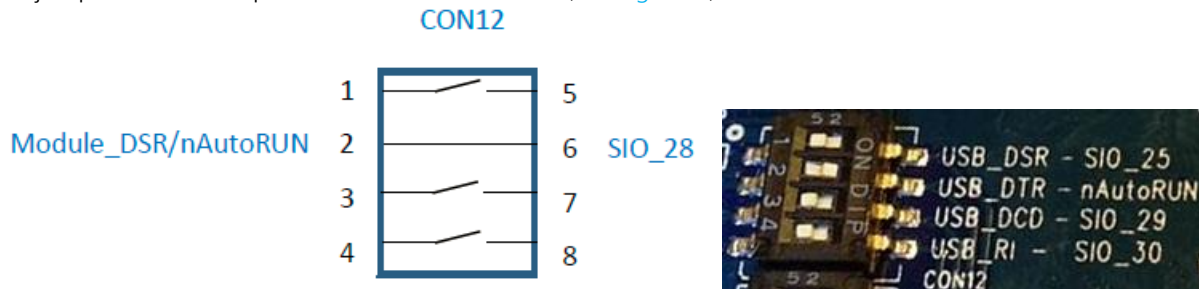

Figure 5: Micro DIP switch CON12 closed (nAutoRUN controlled by PC)
- CON12 (switch 2; that is pin 2-6) MUST be CLOSED (in ON position) to allow PC (using uWTerminal) to control nAutoRUN pin (SIO.28); with no jumper fitted to J6 (see Figure 5).
Note: The additional lines of the DIP switch CON12 are not currently utilised and need to remain open, as shown in Figure 5.